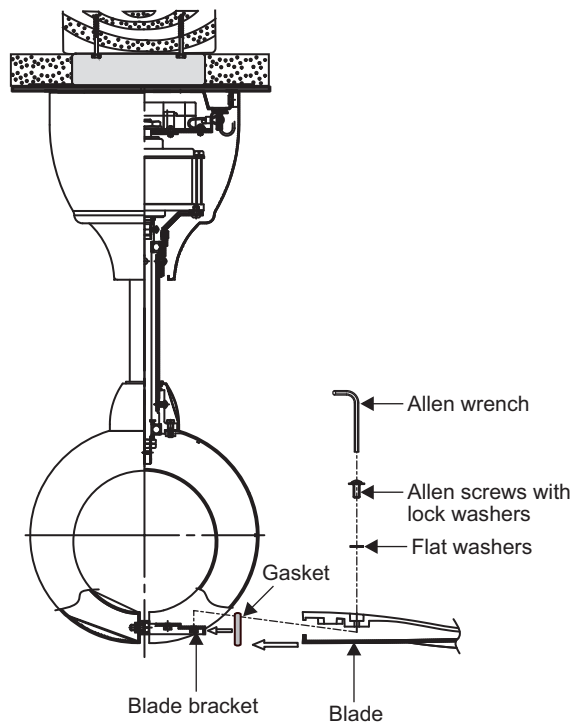

Fig. 10
Step 1. Attach a blade to a blade bracket with the Allen screws (with lock washers) and flat washers and fasten using the Allen wrench provided. (Fig. 10)